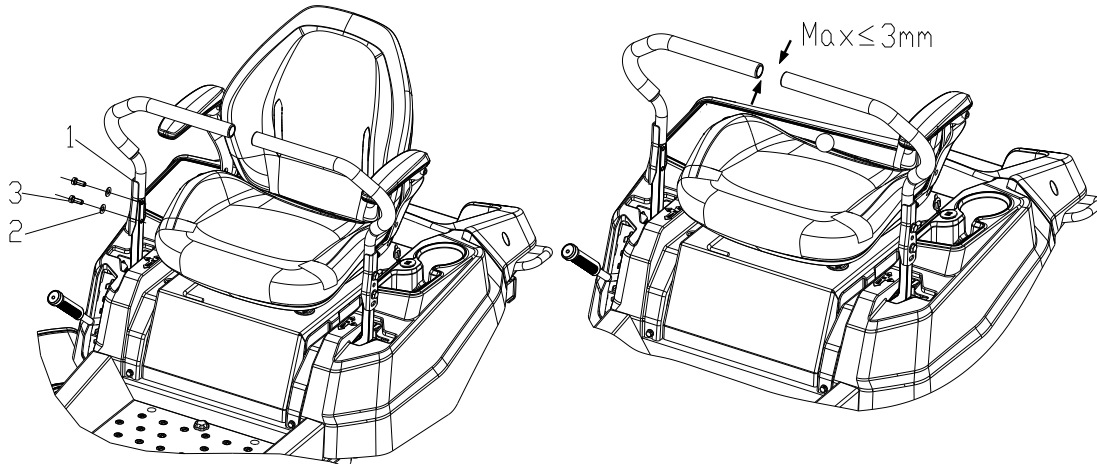

Fig. 1
- After installation, the levers on two sides should be aligned with one another at both the head and the tail, with no obvious misalignment. The maximum longitudinal distance between the centers of the two control levers should not exceed 3 mm (as shown in Fig.1 above).